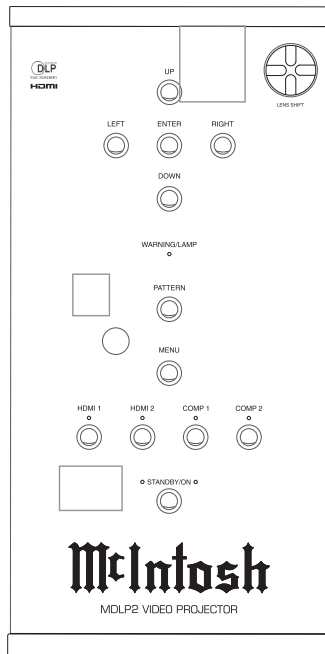

Figure 3
3. The Red LED to the left of the STANDBY/ON Push-button lights to indicate the MDLP2 is in Standby mode. To Switch ON the MDLP2, press the STANDBY/ON Push-button on the Projector Control Panel or the PROJECTOR ON Push-button using the Remote Control. The Green LED to the right of the STANDBY/ON Push-button lights to indicate the MDLP2 is ON. Refer to figures 3 and 4.
4. Press the PATTERN Push-button on the Control Panel or the Remote Control. Refer to figures 3 and 4.
8. Using the LENS SHIFT Control, located on the Top Control Panel, center the image vertically on the screen. Refer to figures 3, 8 and 9.